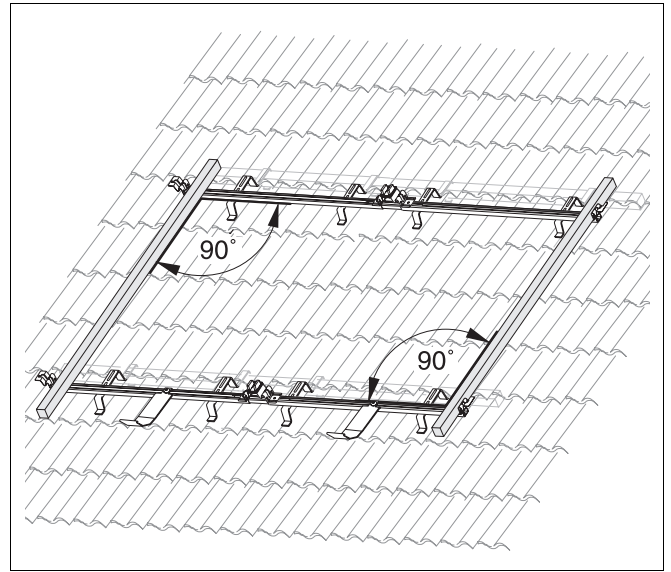

Fig. 24 Aligning profile rails
- Align the top profile rails to the side flush with the bottom profile rails (Fig. 24).